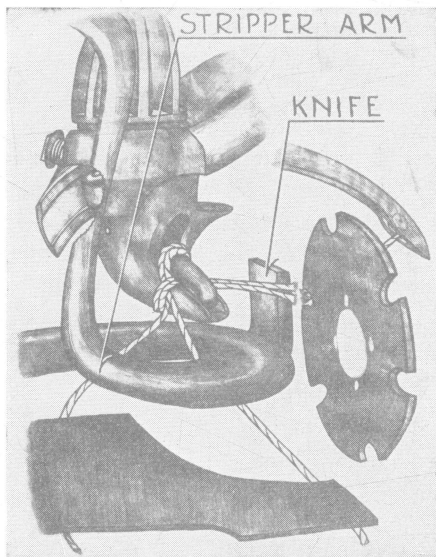
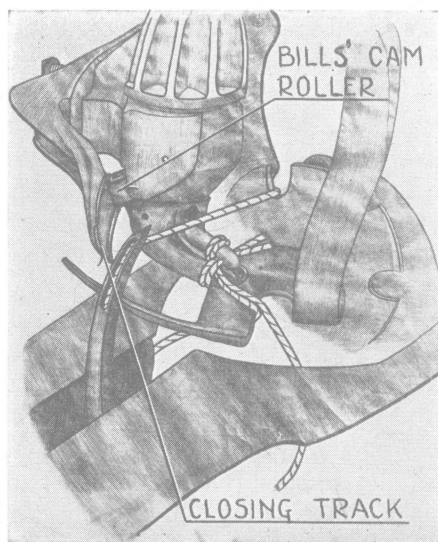

Fig. 11. Step 4 in the Tying Process. The knife cuts the ends of the band free from the disk just before the loop is stripped from the bills.
Fig. 12. Step 5 in the Tying Process. The bills hold on to the ends of the band, thus pulling these ends through the loop as the loop is stripped off the bills.
bill being forced up by the cam roller on the back of the upper bill. This cam roller can best be seen in Fig. 12, and the track on which it rolls to open the bills can be seen in Fig. 9. As the bills continue their revolutions they take into their grasp the two ends of the band, then close down tightly on the ends as shown in Fig. 11. The upper bill closes because its cam roller has now hit the closing track which can readily be seen in Figs. 11 and 12, also on pages 29, 30, and 31. Notice that a spring works on the closing track; this is the *bills' spring* which regulates the holding tendency of the bills.
Step 4. Fig. 11 shows the start of Step 4. The bills have completed their revolution and in so doing formed a loop about themselves and grasped the ends of the band. Something, now, must strip the loop off the bills and do so in the direction in which the bills point. Hence, Fig. 11 shows the stripper arm beginning to advance; it carries a knife which cuts the two ends of the band free from the disk. Notice that the needle has not yet receded. The stripper arm is driven by a cam roller rolling on the stripper cam track within the knotter head cam wheel on the tier shaft. The stripper arm
Step 5. As the stripper arm advances, as shown in Fig. 12, it pulls the loop off the bills because the remainder of the band is being held fast by the bundle below the breast plate. As the stripper arm strips the loop off the bills, the bills hold onto the ends of the band, thus pulling these ends through the loop—and the binder knot is tied. Note in Fig. 12 that the needle now recedes; in doing so it lays the twine in the next notch of the disk as can be inferred from Fig. 11. As the needle recedes it leaves the disk end of the next